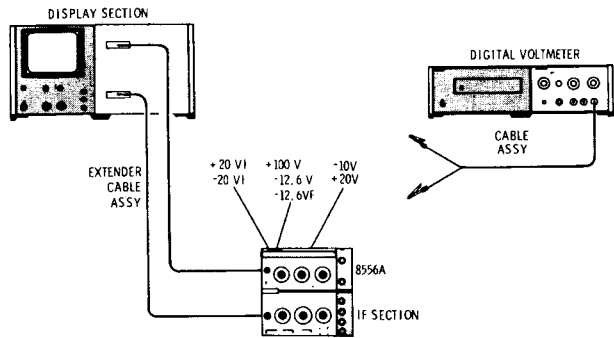

Figure 5-1. Voltage Checks Test Setup
- Extend LF and IF Sections on Extender Cable Assembly as shown in Figure 5-1.